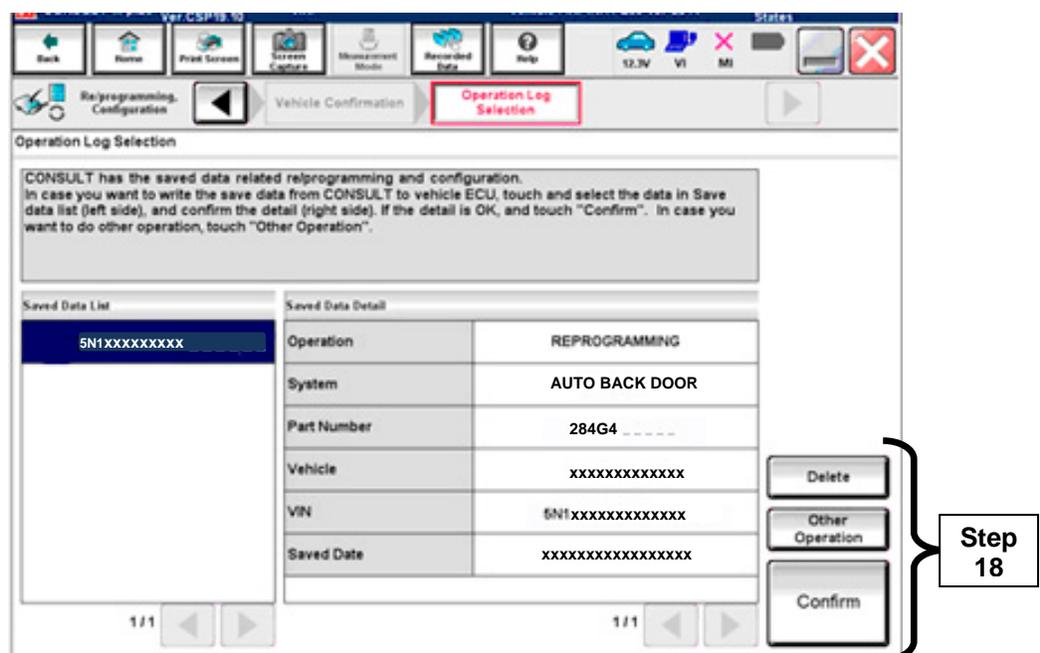

Figure 12
18. If the screen in Figure 12 appears, first select **Delete**, then **Confirm**, and then **Other Operation**.